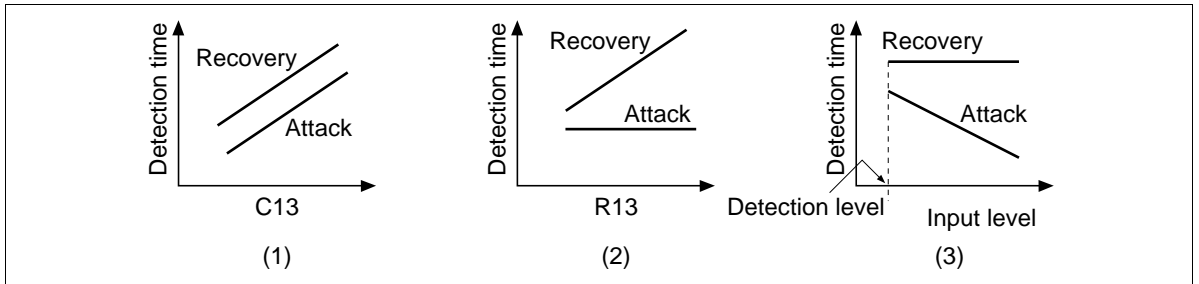

Figure 6 Function Characteristic of MS
Figure 6(1) generally shows that detection time is in proportion to value of capacitor C13. But, with Attack*² and Recovery*³ the detection time differs exceptionally.
Like the figure 6(2), Recovery time is variably possible by value of resistor R13. But Attack time gets about fixed value. Attack time has dependence by input level. When a large signal is inputted, Attack time is short tendency.